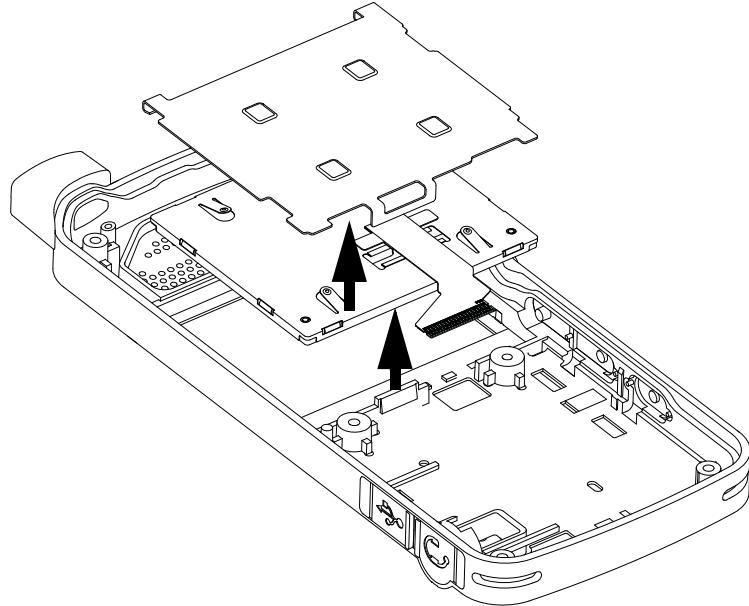

Figure 5-18. LCD display removal
8. Remove the LCD display as shown in Figure 5-18.